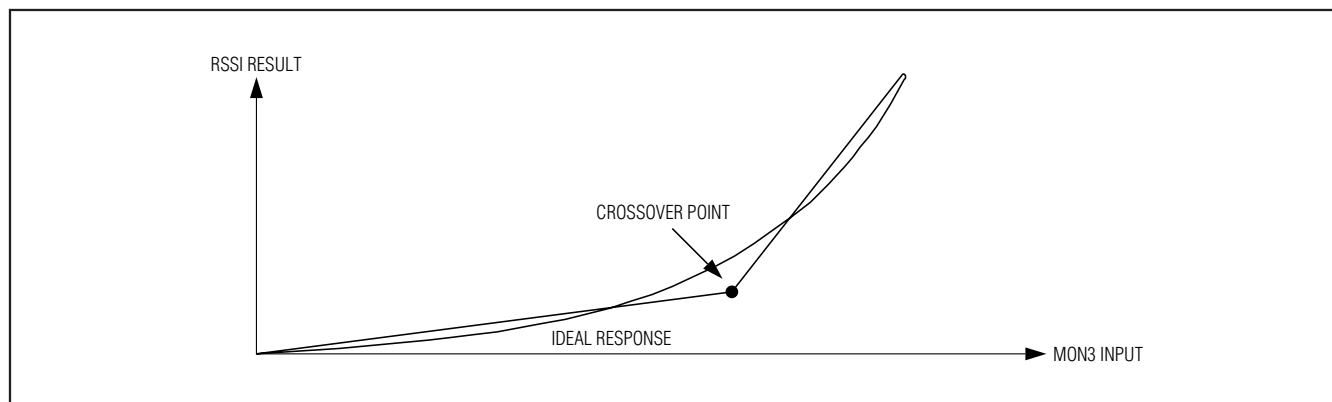

Figure 8. RSSI with Crossover Enabled
- **Crossover Enabled:** For systems with a nonlinear relationship between the ADC input and desired ADC result, the mode should be set to crossover enabled (Figure 8). The RSSI measurement of an APD receiver is one such application. Using the crossover enabled mode allows a piecewise linear approximation of the nonlinear response of the APD’s gain factor. The crossover point is the point between fine and coarse points. The ADC result transitions between the fine and coarse ranges with no hysteresis. Right-shifting, slope adjustment, and offset are configurable for both the fine and coarse ranges. The XOVER FINE register determines the maximum results returned by fine ADC conversions, before right-shifting. The XOVER COARSE register determines the minimum results returned by coarse ADC conversions, before right-shifting.